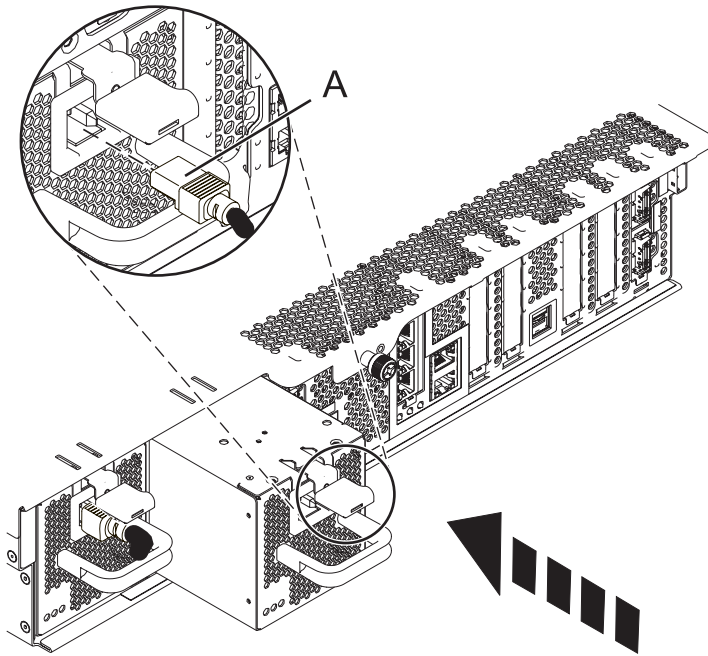

Figure 1. Installing a power supply with the power turned off
5. Align the power supply with the bay and slide the new power supply into the system until the latch locks in place, as shown in Figure 1.